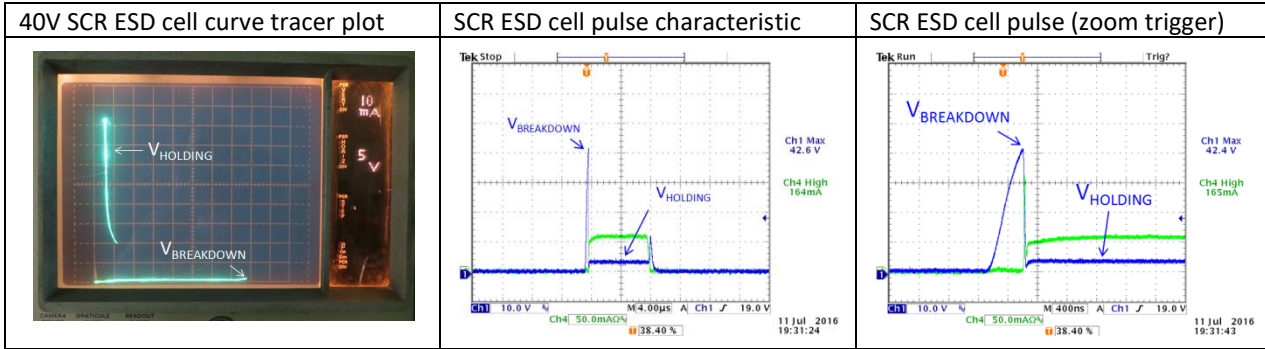

FIGURE 14
- SCR type ESD cells will latch to a very low voltage when their breakdown voltage is reached, resulting in very hard snap-back action. See Figure 14.